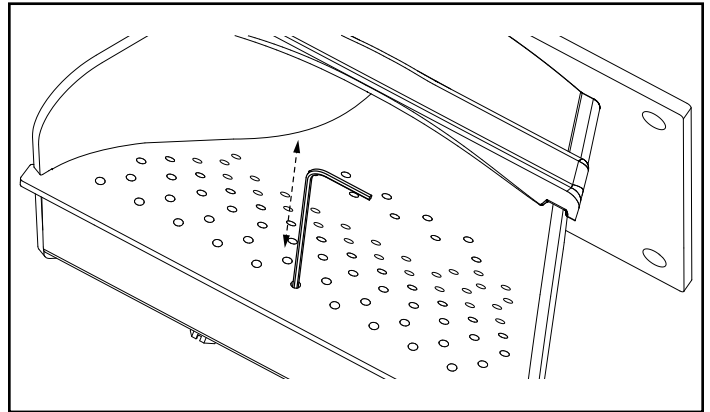

Figure 2.3
- Use the supplied allen wrench to remove any build-up that may have accumulated in the holes of the burn pot grate. Simply push the allen wrench down through each hole ensuring it is clear of any build-up paying attention not to damage the igniter element in the process. Figure 2.3.